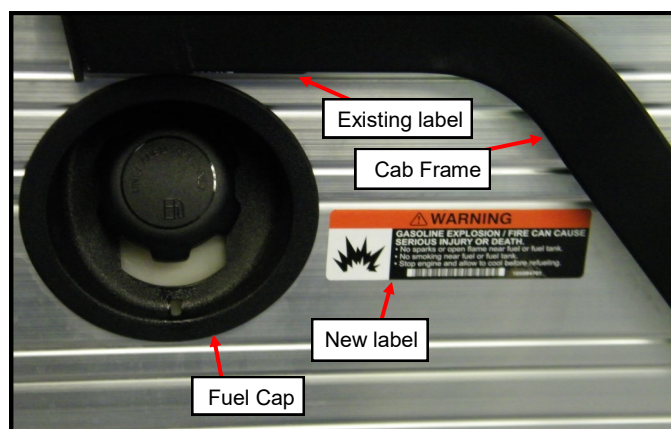

Figure 7.2: Gas/Fire Warning Label
- 7.2 **Gasoline Vehicles only:** Apply the Gas/Fire Warning Label forward of the Fuel Cap as shown (**Figure 7.2**).